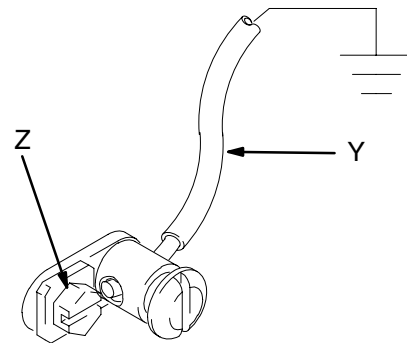

Fig. 1
1. *Pump:* use a ground wire and clamp. See Fig. 1. Remove the ground screw (Z) and insert through eye of ring terminal at the end of ground wire (Y). Fasten ground screw back onto pump and tighten securely. Connect the other end of the wire to a true earth ground. Order Part No. 222011 Ground Wire and Clamp.